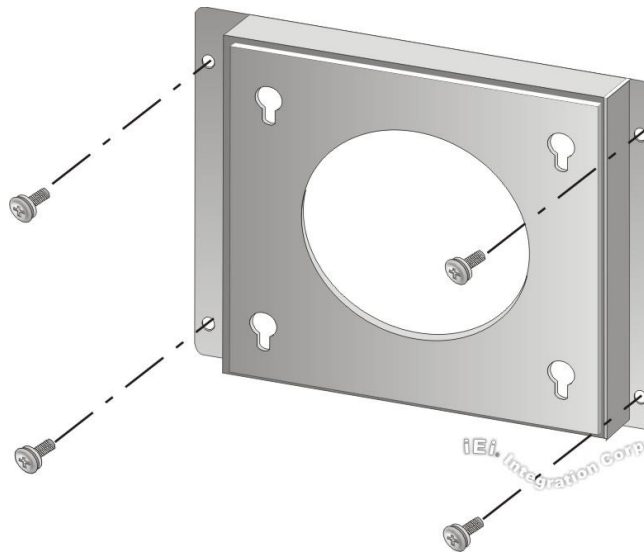

Figure 3-8: Wall-mounting Bracket
Step 5: Secure the mounting bracket to the wall by inserting the retention screws into the four pilot holes and tightening them (**Figure 3-8**).